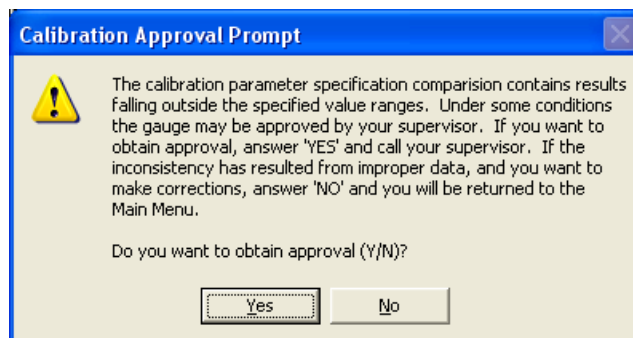

Figure 2–17. Calibration Approval Prompt
1. At this point in the process, the TCS program will be displaying the **Calibration Approval Prompt** (see Figure 2–17).
- ▶ If the calibration will be accepted regardless of the inconsistency or inconsistencies encountered, then click the **(Yes)** button. The software returns to the **Function Menu** (see Figure 2–6). Proceed to the section on *Entering Calibration Constants into the Gauge* that begins on page 2–22.
- ▶ Otherwise, to reject the current calibration and try to solve the inconsistency problem, click the **(No)** button. The software returns to the **Function Menu** (see Figure 2–6). Proceed to step 2.